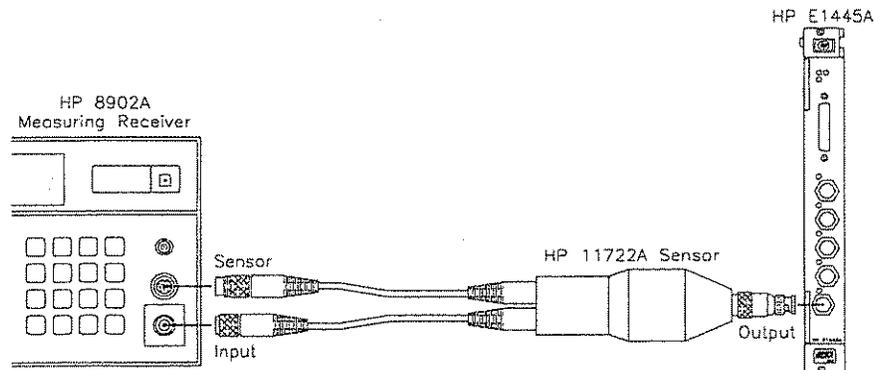

Figure 2-7. Equipment Setup for Test 2-6
8. Connect the equipment as shown in Figure 2-7: